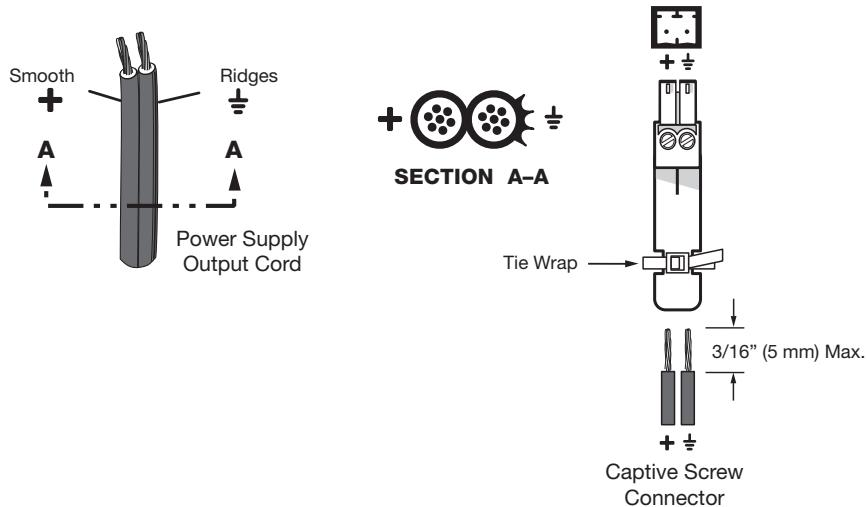

Figure 6. Power Connector Wiring
Figure 6 shows how to wire the power connector.
- When you are connecting the power supply, voltage polarity is extremely important. Applying power with incorrect voltage polarity could damage the power supply and the regenerator. Identify the negative lead by the ridges on the side of the cord (see figure 6). To verify the polarity before connection, plug in the power supply with no load and check the output with a voltmeter.